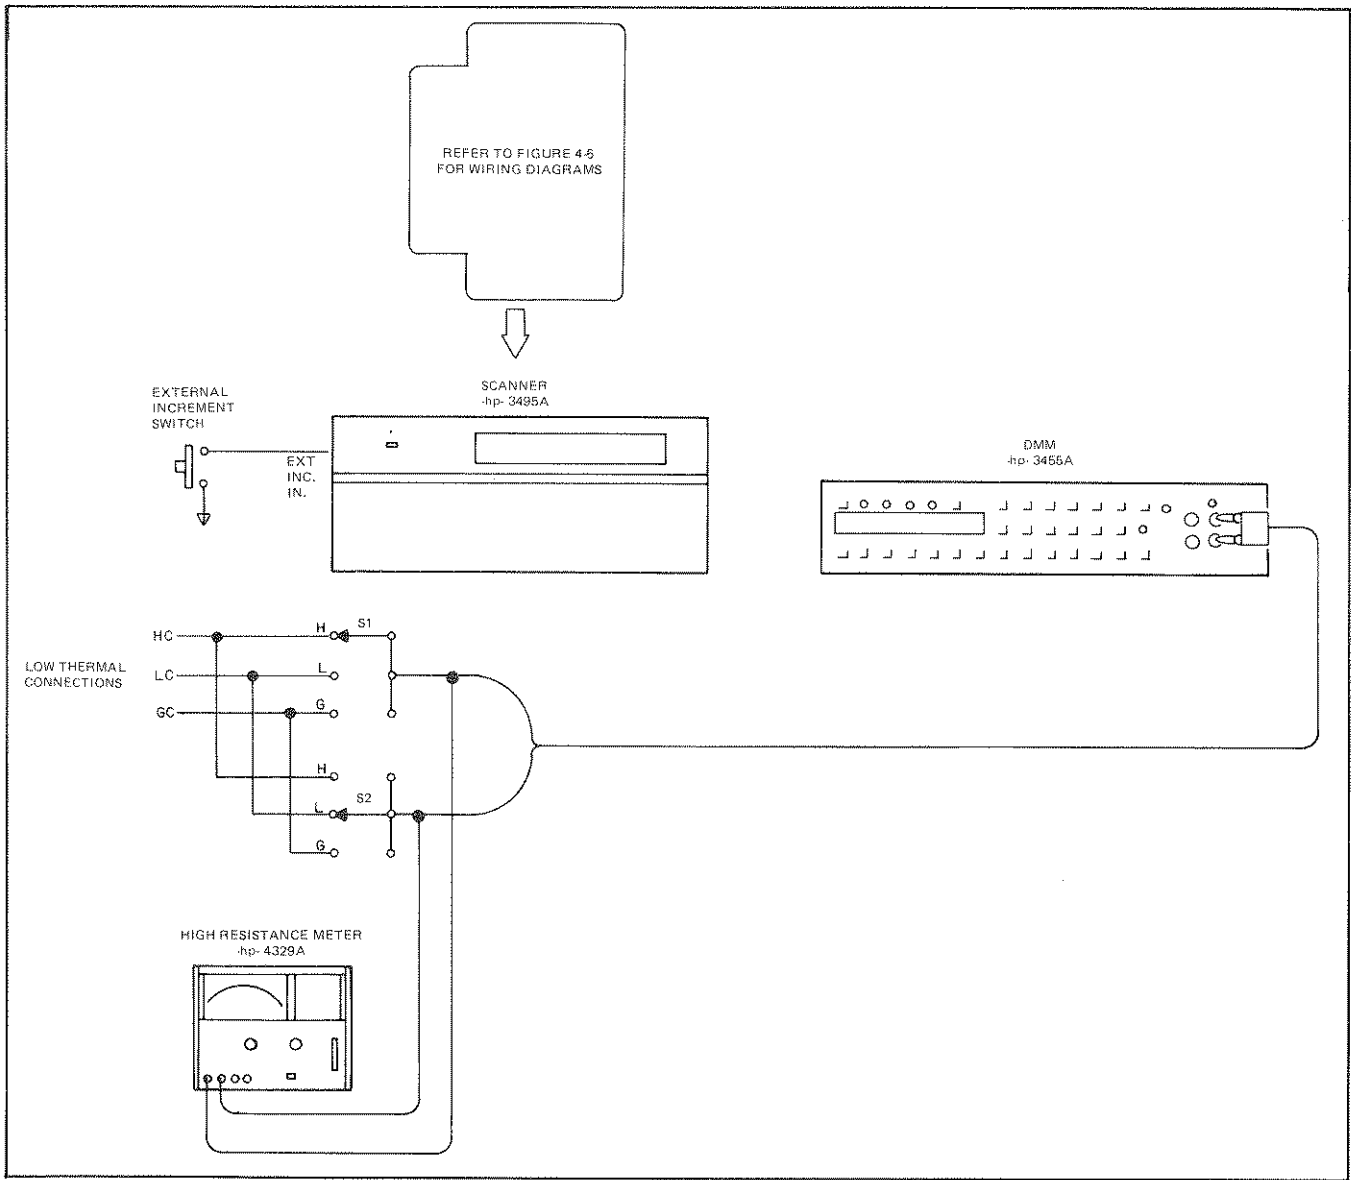

Figure 4-6. Channel Isolation Test Setup.
as determined by the Select Switches S1 and S2 in Figure 4-6.
- DPDT Switch (2) (-hp- 3101-1235)
a. Connect the test setup as shown in Figure 4-6. Use the proper value for R_S as shown in Table 4-2.